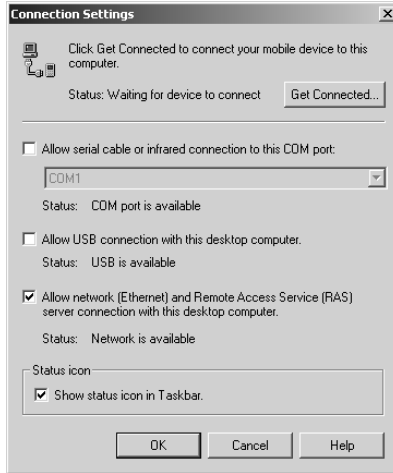

Figure 2-15. Connection Settings
3. On the **Connection Settings** dialog box, click and enable the following parameters (Figure 2-15):